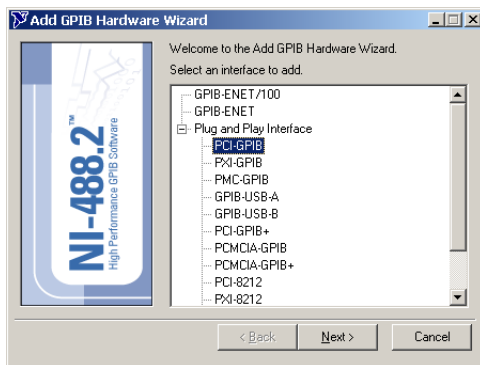

Figure 6A. Add GPIB Hardware Wizard, select interface
9. The **Add GPIB Hardware Wizard** will start (Figure 6A). Select the **PCI-GPIB** card, which will be used to communicate with Quantum Design instruments. Then click on the **Next >>** button.